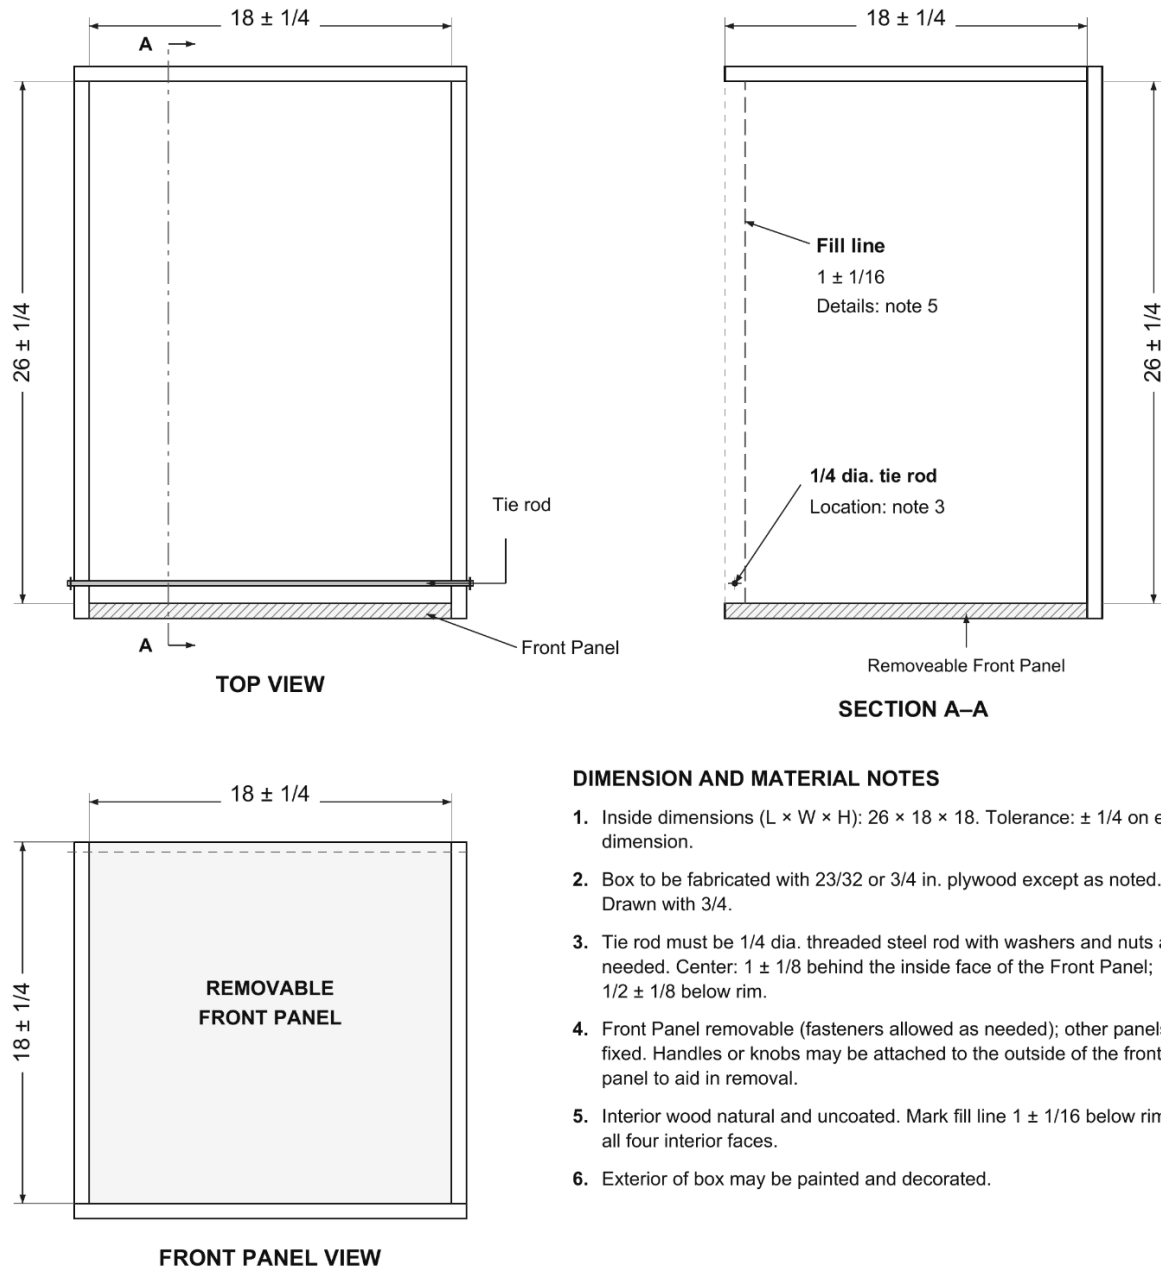
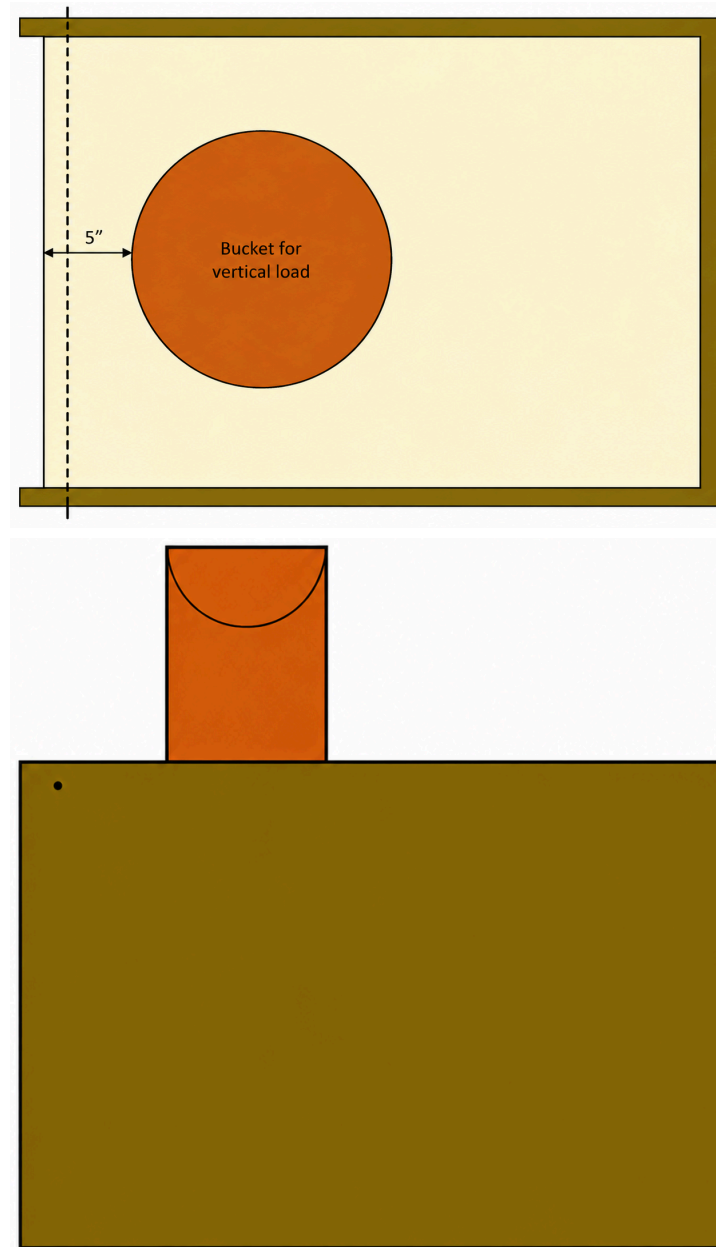

Figure 2: Sandbox Schematic
Figure 4: Sandbox Loading (not to scale)
6. Sandbox – The MSE wall will be constructed within an apparatus hereafter referred to as a sandbox. Each team shall bring their own sandbox to the competition. Painting and the addition of school or sponsor logos and other decorations to the exterior of the sandbox is highly encouraged. The sandbox shall be made up of a bottom and four vertical sides with no top. The front panel will be removable as shown in Figure 2. The removable box panel will be in place during wall construction and removed after construction to expose the MSE wall. The sandbox shall meet the following requirements:
- c) Have a removable front as shown in Figure 2. Panels must be flush with the base of the box and held in place with threaded inserts, screws, hinges, or other easily removable fasteners.
- g) All dimensions of the sandbox shall be as shown in Figure 2.
- c) **Construction Stage** – After the wall is assembled and checked by the judges, the judges will instruct the team to start construction. During this stage, the team fills the box with sand until the sand fill line (see Figure 2) is covered and the backfill is level, and an empty 5 gallon vertical surcharge bucket is placed on top of the sand as shown in Figure 4. The facing material must be in direct contact with the inside of the sandbox at all times during this stage. The tie rod may be removed from the box at the start of this stage, but it must be in place before any sand is placed in the box. Temporary templates or guides may be used during this stage so long as they are removed before the end of the stage.
- d) **Loading Stage** – Details of the load placement are shown in Figure 4. This stage occurs in two steps: 1) removal of the front panel, and 2) placement of 50 lb vertical surcharge load. During each step, the wall will be checked for the following three criteria: 1) excessive deformation (any portion of the wall extending outside the imaginary plane extending vertically from base of sandbox), 2) excessive soil leakage (more than 30 cm³ of sand passing out of the sandbox), and 3) catastrophic failure. The team will be penalized for excessive soil loss and excessive deformation, but will be disqualified for a catastrophic failure.
- i. When directed by the judge, the team shall remove the front panel of the sandbox. After the panel is removed, the judge will wait one (1) minute and then check the three criteria.
- ii. If the wall does not fail catastrophically, the team will then place 50 lbs of sand in the empty 5 gallon bucket on top of the sand. The team will have one (1) minute to place the load. After the load is placed, the judge will wait one (1) minute and then check the three criteria.